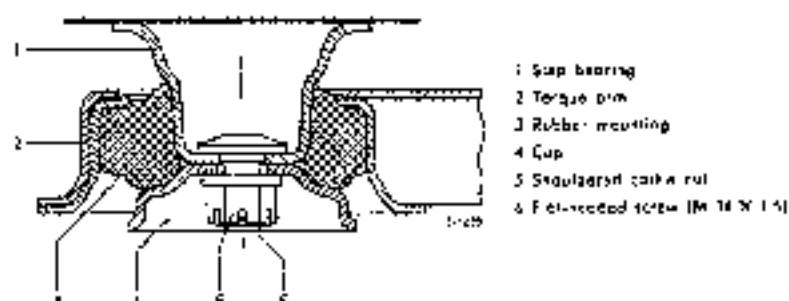

Fig. 35-1/5
On recent cars of Models 180 b, 180 Db, 190 b, and 190 Db rubber mountings with a lip have been installed (Fig. 35-1/5).
In order to reduce chassis noises on the rear axle suspension on Models 190 D and 190 Db the upper rubber mountings and the lower rubber rings have a lower Shore hardness than those on the other models. In a few isolated cases knocking noises have been heard when the car is being driven away at high speed since the support of the rear axle suspension strikes against the chassis base panel. To prevent these noises on the rear axle support a rubber ring (6) Part No. 121 351 02 86 has been installed as a standard part on recent cars of Model 190 Db (see Fig. 35-1/6).